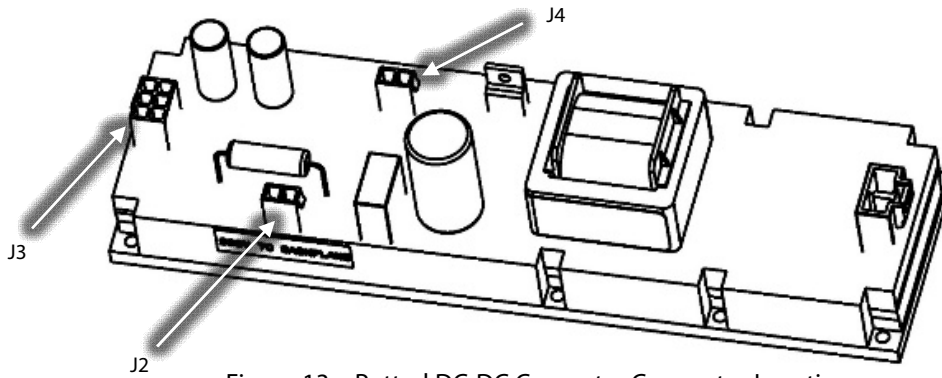

Figure 13 – Potted DC-DC Converter Connector Locations
- a. Remove the three (3) remaining connectors (250VDC (J2), 24VDC (J3), and 15VAC (J4)) from the DC-DC Converter. Refer to Figure 13 – *Potted DC-DC Converter Connector Locations*.